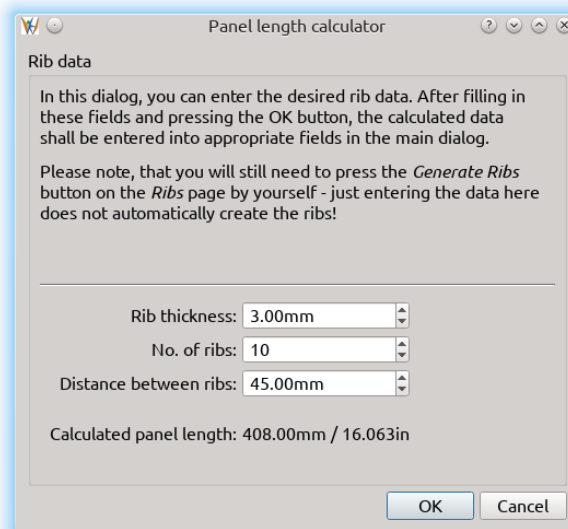

Figure 4: Panel Length Calculator
- **Panel length**. This number is one of the parameters used for the generation of the initial set of panel ribs. For this reason, modifications to this parameter are not reflected instantly, but rather after the button *Generate Ribs* is pressed (see the area *Ribs*). Most probably, you will not want to enter this data manually, but rather by means of the *Panel Length Calculator*, which can be invoked by clicking on the button denoted with a red number 3. Panel length calculator can be seen on Figure 4. If you are using the *Panel Length Calculator*, don't forget to also press the “*Generate Ribs*” in the ribs specification area (see Section 4.3.2), because the effects will not be visible before you do so.